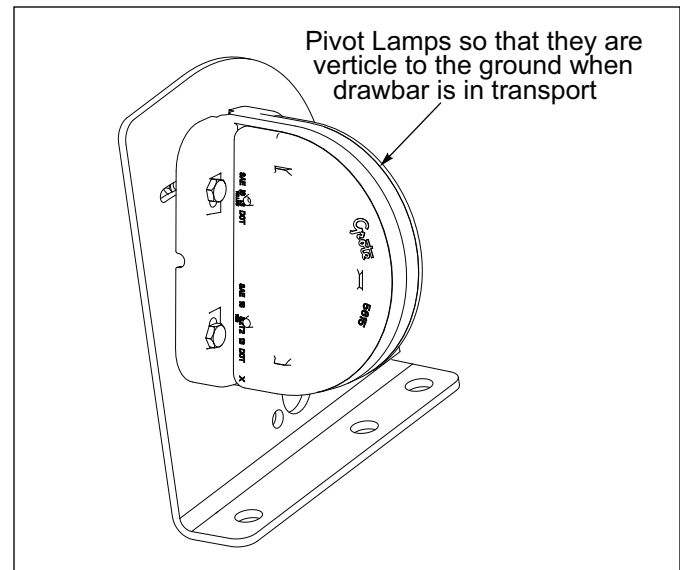

Figure 2-21: LED Adjustment
11. Adjust the LED Lamp angle so that the lamp is vertical (perpendicular) to the ground when the Pulverizer is in the transport position. Whether the Pulverizer is towed behind a tractor or a companion tool, the Light Mount Bracket provides lamp adjustment for higher or lower drawbar heights, ensuring that the lamp will always be vertical (perpendicular) to the ground and clearly viewable from the front and rear of the machine. **See Figure 2-21.**